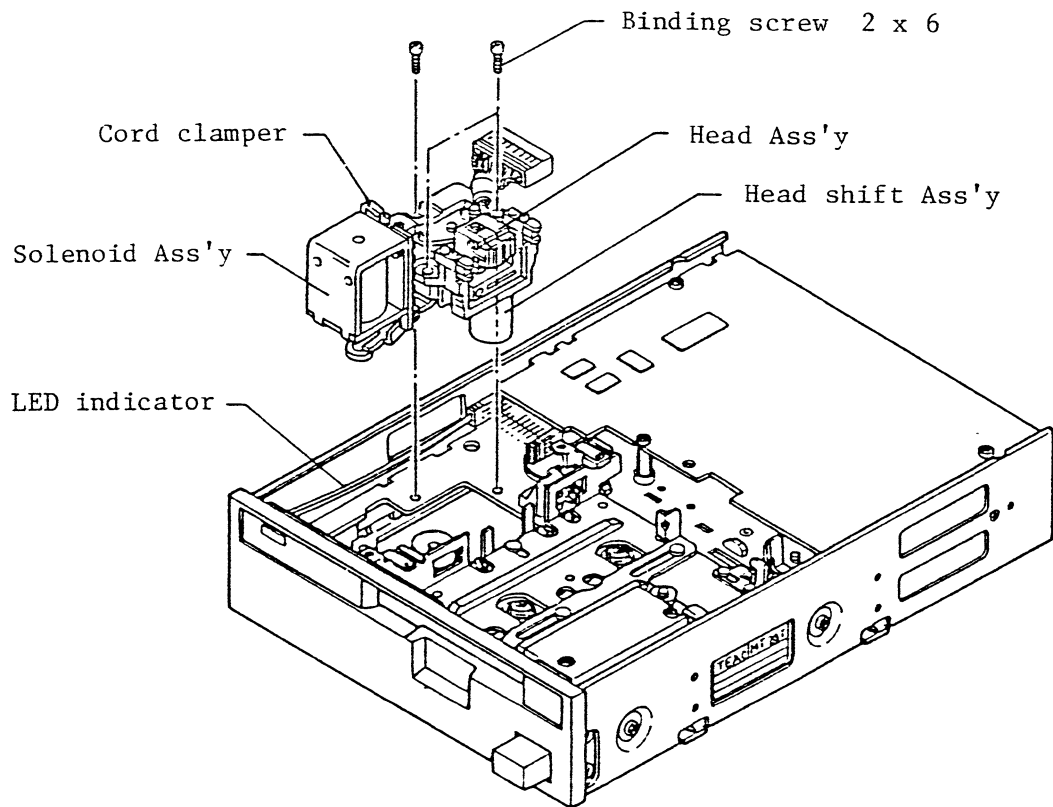

Fig.447 Replacement of solenoid Ass'y (1)
- (f) Disconnect the cables of the LED indicator from the cord clamper (Fig. 447).
- (h) Remove the three mounting screws from the head base Ass'y. Lift the head shift Ass'y with the head Ass'y kept attached, and detach it from the main unit (Fig. 447).